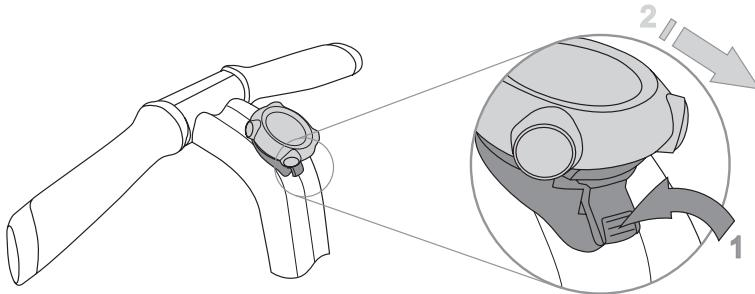

Figure 46. Undocking the InfoKey Controller
2. Slide the InfoKey Controller out of the InfoKey Controller Dock as shown in **Figure 46**.